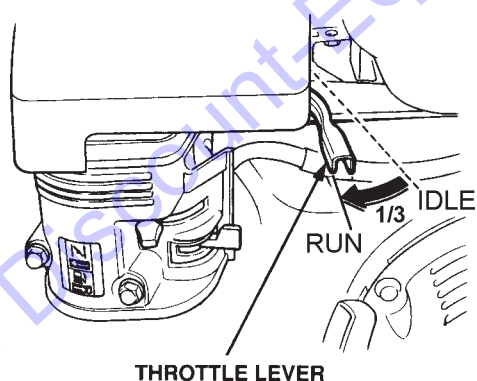

Figure 8. Throttle Lever (1/3 Start Position)
2. Move the **throttle lever** (Figure 8) away from the slow position, about 1/3 of the way toward the fast position.